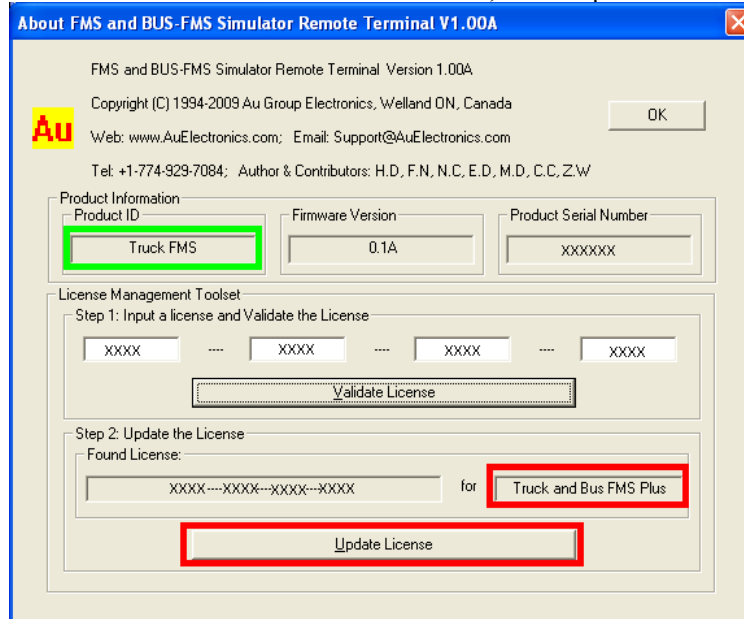

Figure B-5
6. After a validate license is entered, Updated license Information will display, as demonstrated here in Figure B-5, Truck FMS will be upgraded to Truck and Bus FMS Simulator Plus Edition, click "Update License" button.